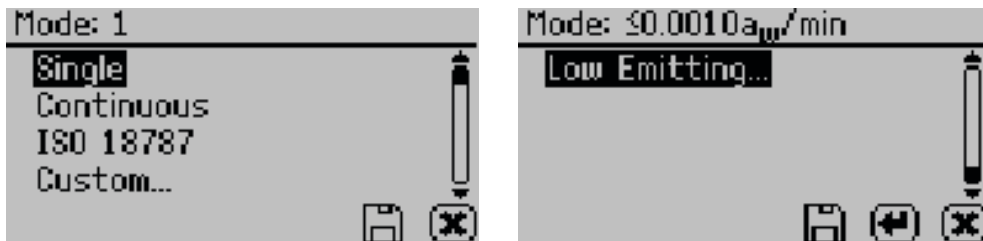

Figure 30 Mode options
- **Mode.** Select to choose between Single, Continuous, Custom, or Low-Emitting mode (Figure 30). The current mode settings appear at the top of the screen with the number of tests appearing first, followed by the stability value (Δa_w).